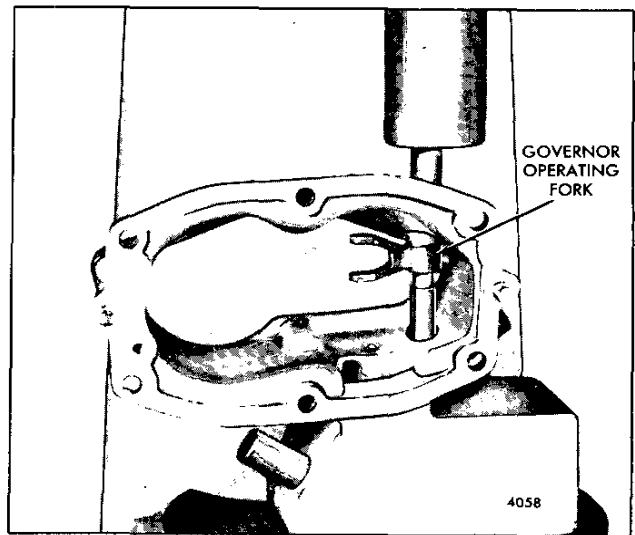

Fig. 14 - Installing Governor Operating Fork on Shaft
4. Support the operating shaft and governor housing on the bed of an arbor press with the upper end of the shaft resting on a steel block (Fig. 14). Align the flat in the fork with the flat on the shaft, then place a sleeve over the shaft and against the fork. Press the fork tight against the shoulder on the shaft. Install the set screw and lock screw, if used, in the fork.